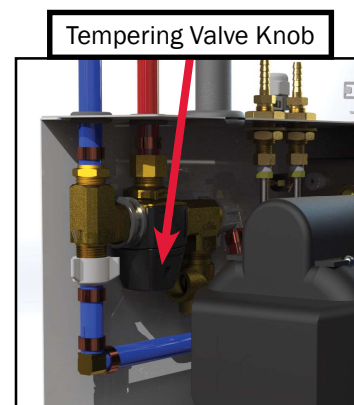

Figure 32
5. Test the tempering valve's functionality by turning the knob (see Figure 32). If the knob does not rotate, this tempering valve will need to be replaced. On newer heaters, it will be necessary to remove a black plastic cap from the body of the tempering valve.